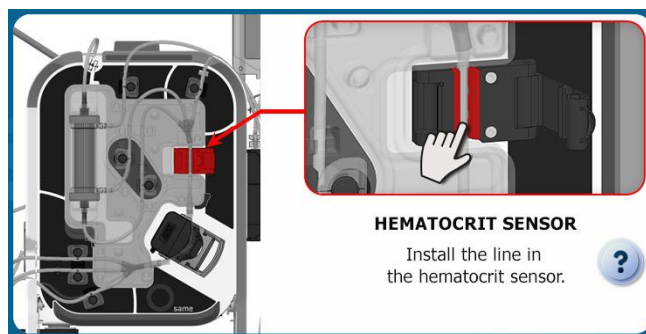

Figure 70: Haematocrit Reader installation screen
The following screen appears next (See Figure 70).
- Position the tubing in the Haematocrit Reader and use your finger to press on it so as to fully push it in place (See Figure 70).